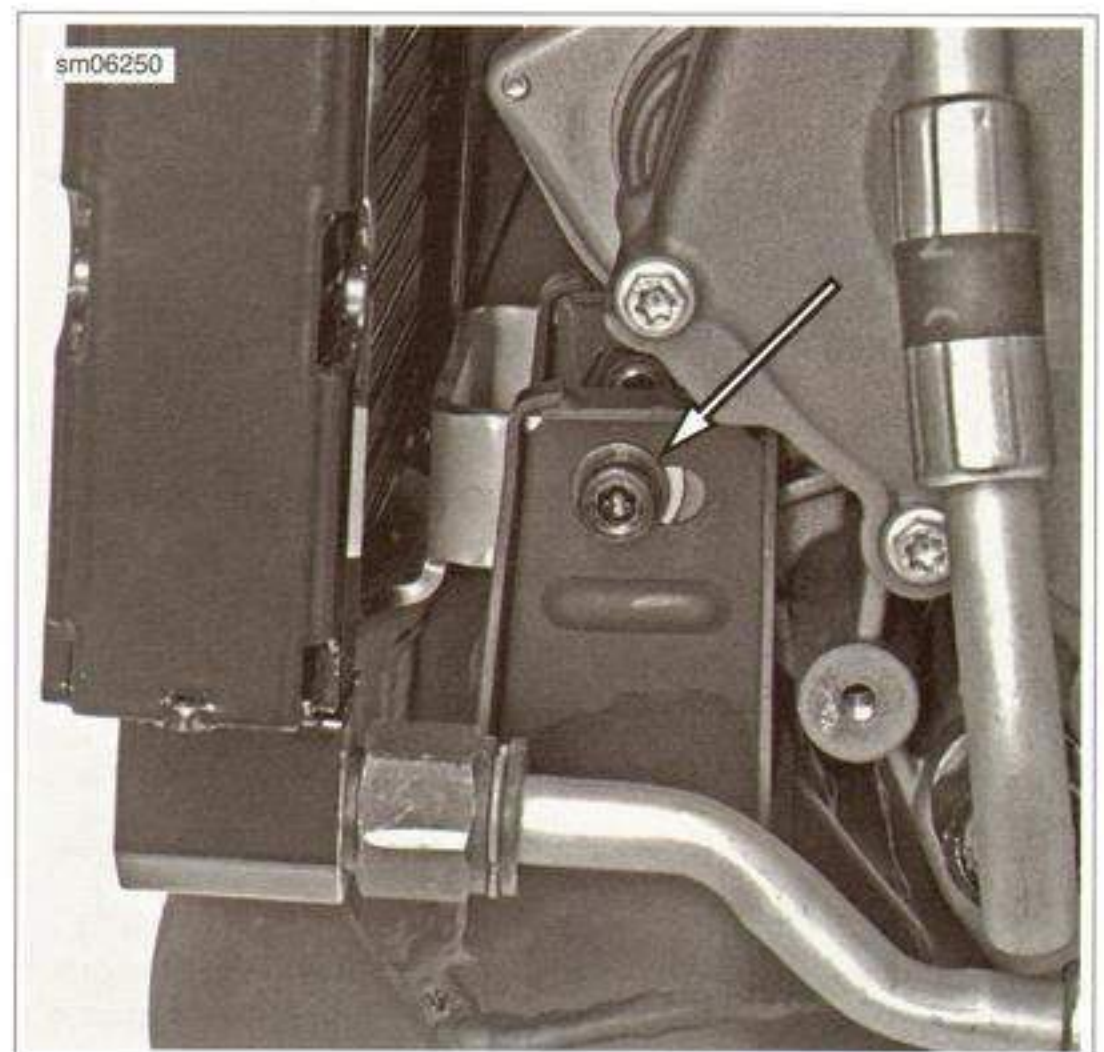

Figure 4-48. Left Side Muffler Mounting Bolt
1. See Figure 4-48. Remove the bolt and washer through the oil cooler bracket into the engine.